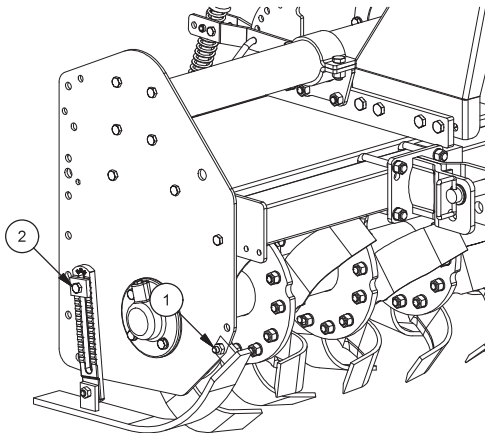

FIG. 25
IF THERE ARE SIDE SKIDS ADJUST THEM AS DESCRIBED BELOW IN FIG. 25
Loosen nuts (1, Fig. 25), act upon the rear regulator by loosening the nut (2). Withdraw downwards to reduce the working depth; Insert upwards to increase the working depth. Tighten nuts (1 and 2, Fig. 25).